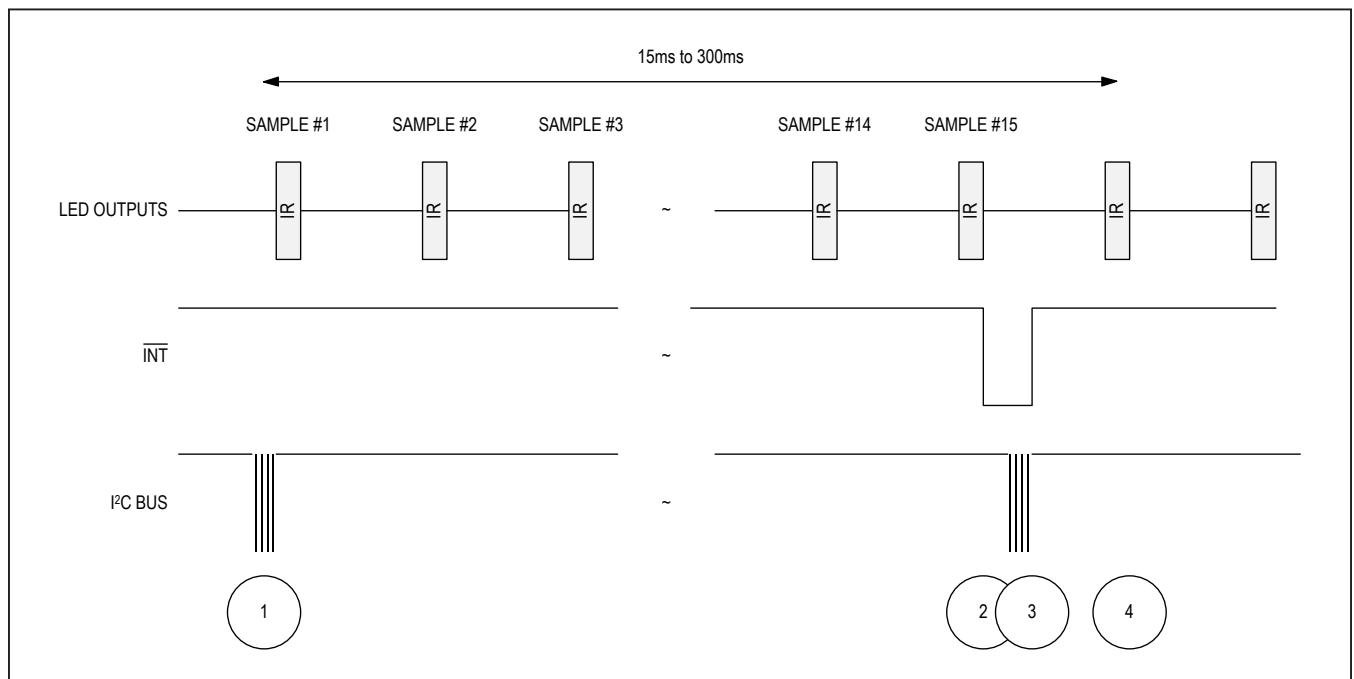

Figure 4. Timing for Data Acquisition and Communication When in Heart Rate Mode
**Table 16. Events Sequence for Figure 4 in Heart-Rate Mode**